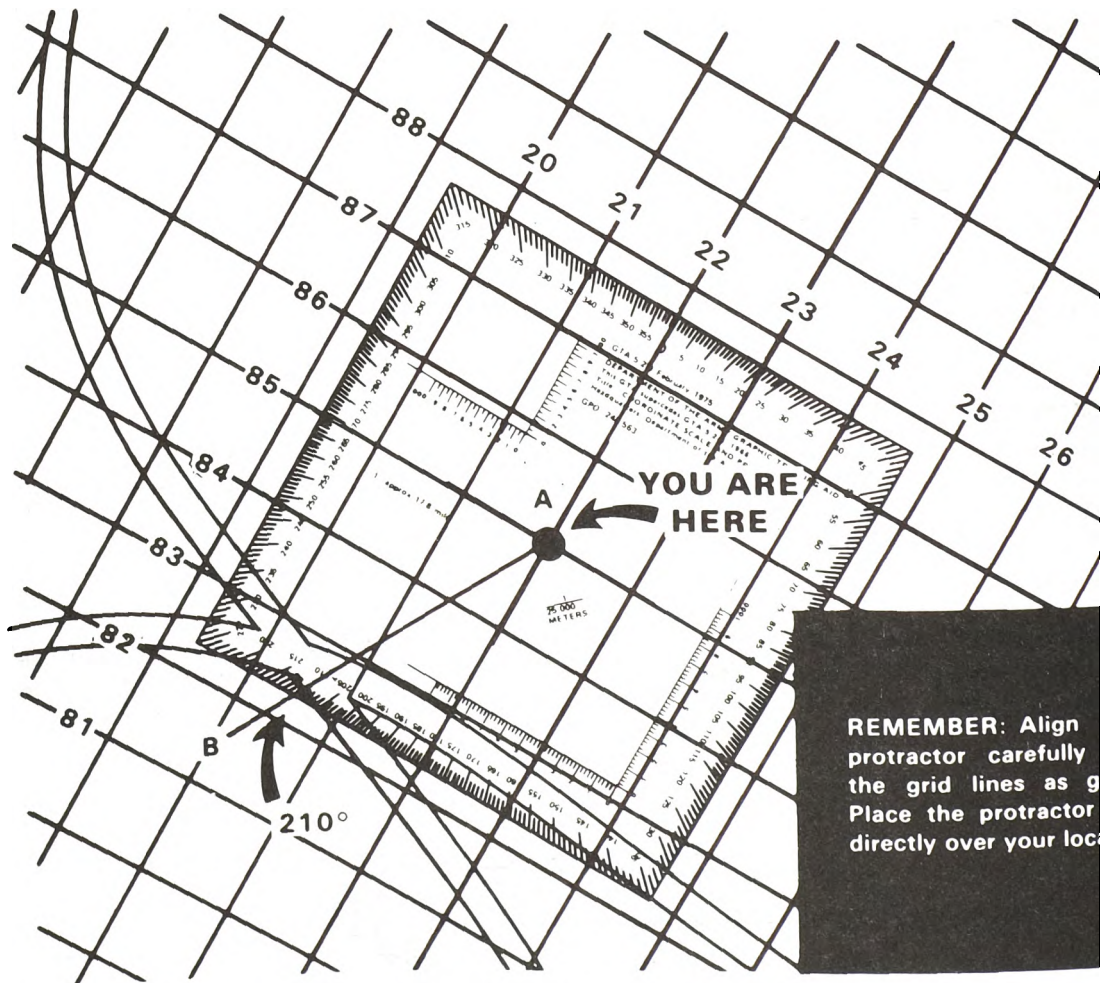

Figure 1. Using a protractor to determine an azimuth.
- a. Determine your location (Point A) and the location of the point (B) on the map (fig 1).
Suppose you follow the 210° azimuth in figure 1 to the road junction and then want to go back to your original location. To do this, you take a BACK AZIMUTH. You simply subtract 180° from the first azimuth. Your back azimuth is $210^\circ - 180^\circ = 30^\circ$.